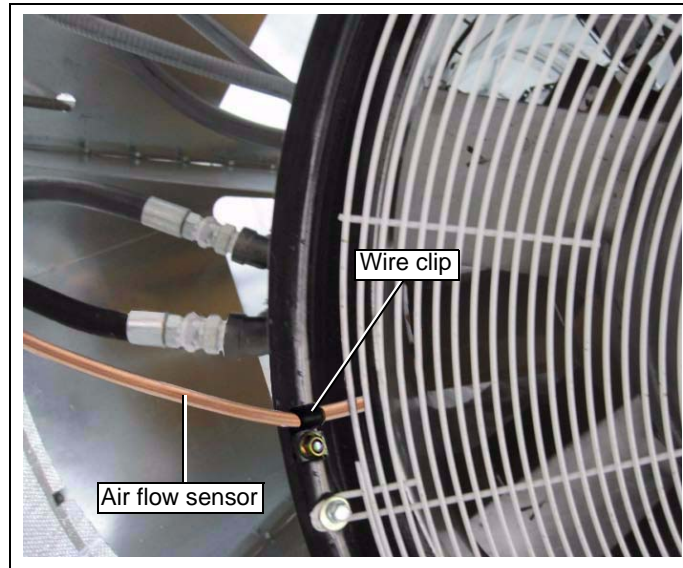
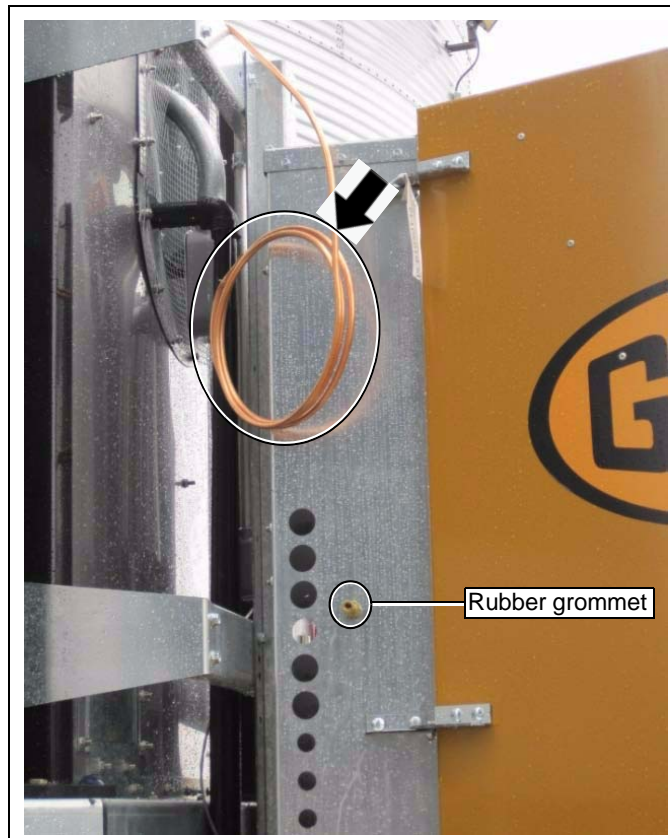
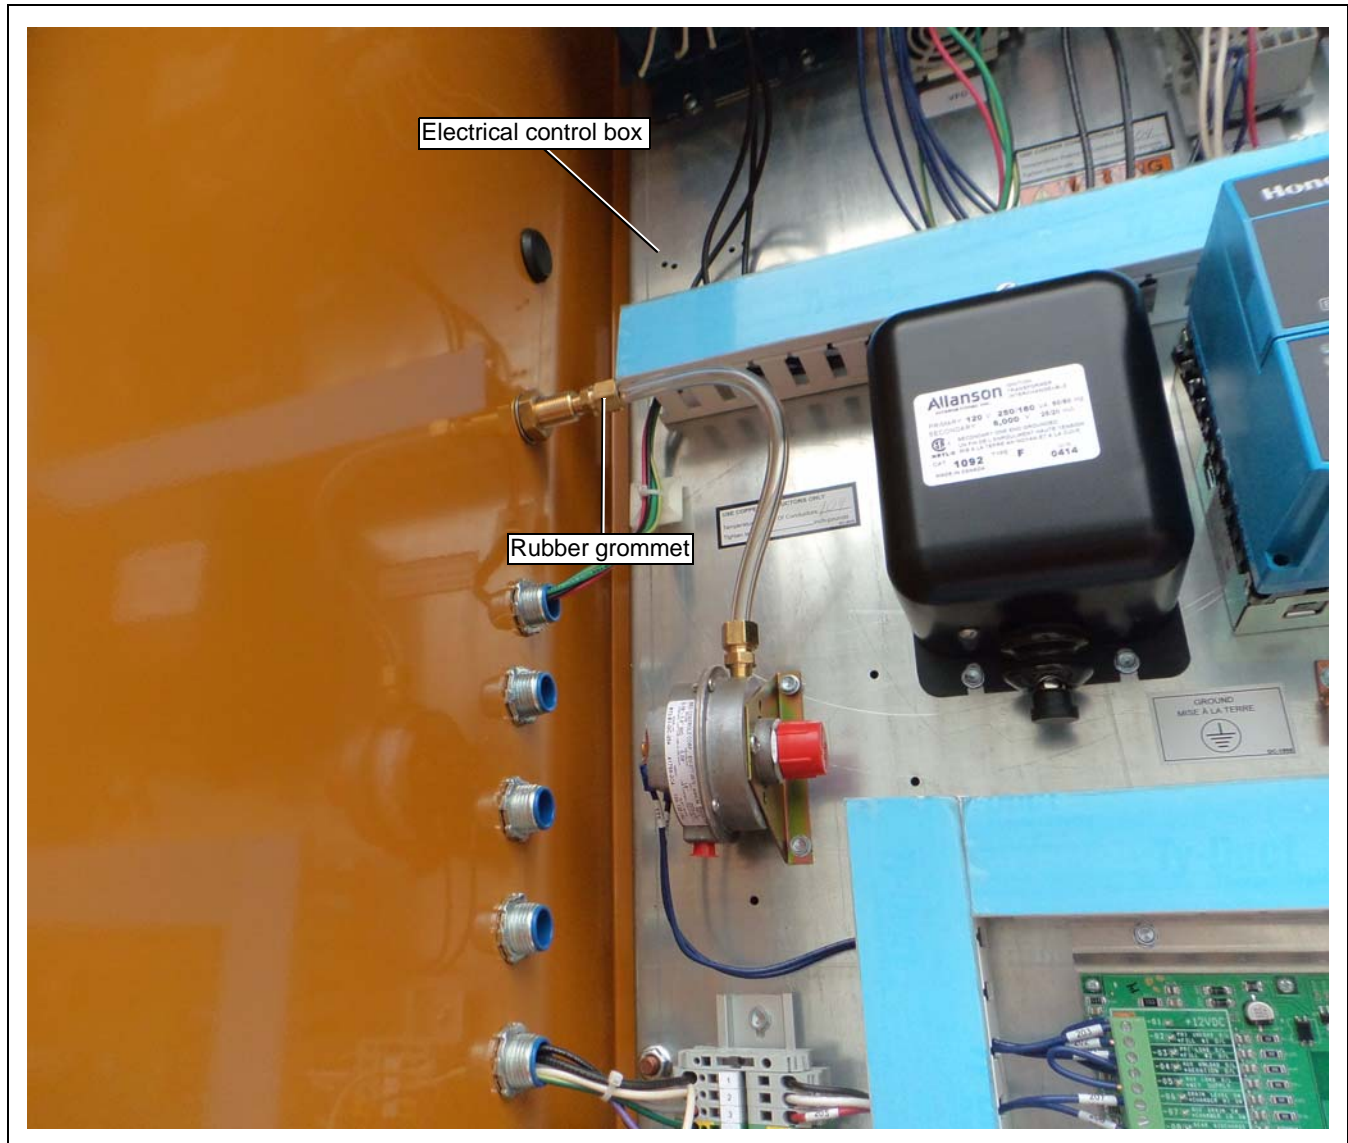

Figure 10B
Figure 10C
Figure 10D
1. The air flow sensor connects to the grill guard on the fan with a rubber grommet and feeds through to a connecting point on the outside of the electrical control box, which connects to the sensor on the inside of the control box. (See Figure 10B, Figure 10C below and Figure 10D on Page 63.)
2. Connect the air flow sensor (copper tubing) from the grill guard inside of dryer burner/blower to the rubber grommet on the side of the outside control box. (See Figure 10C.)
3. The rubber grommet connects to the air flow sensor inside of the control box. (See Figure 10D.)